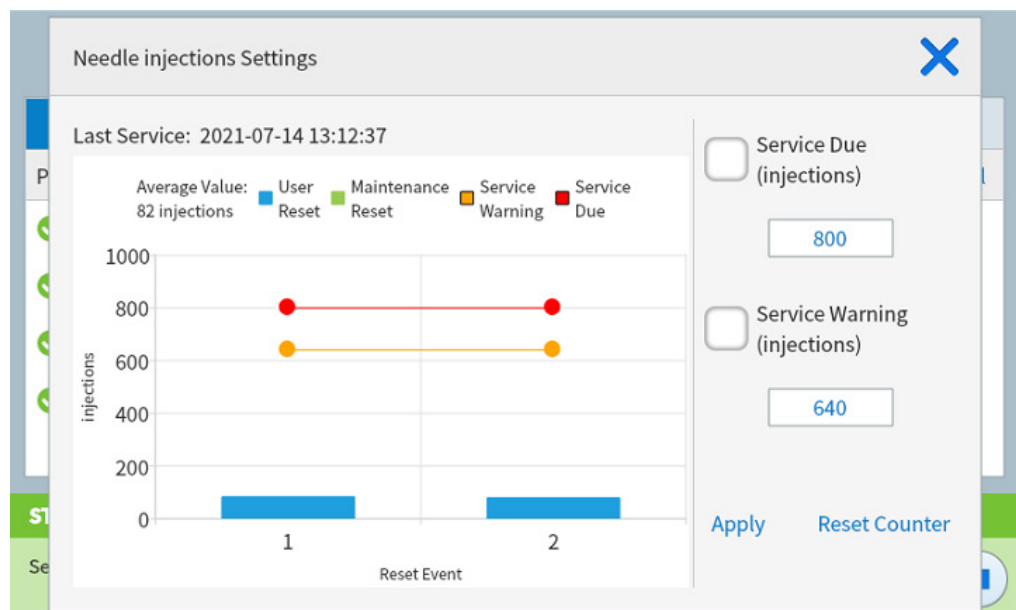

Figure 34 Settings dialog box
- 2 Select the **Details** listing for the counter you want to change. The dialog includes a trend plot for past reset events for this counter. See Figure 34.